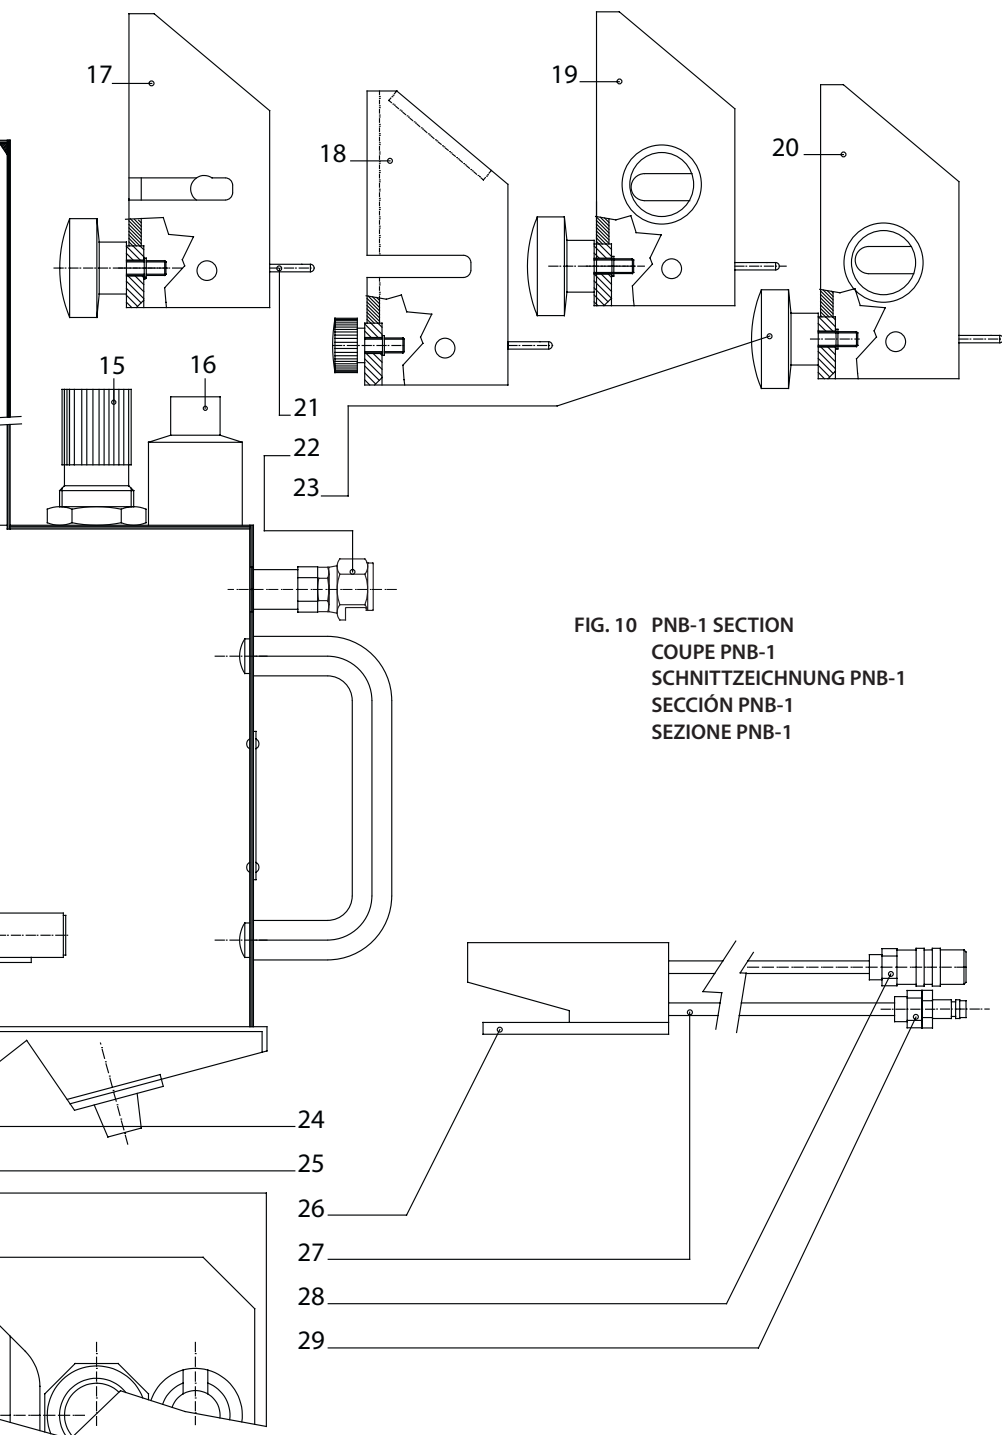

FIG. 10 PNB-1 SECTION
7. LISTA DEI COMPONENTI (Rif. a Fig. 10)